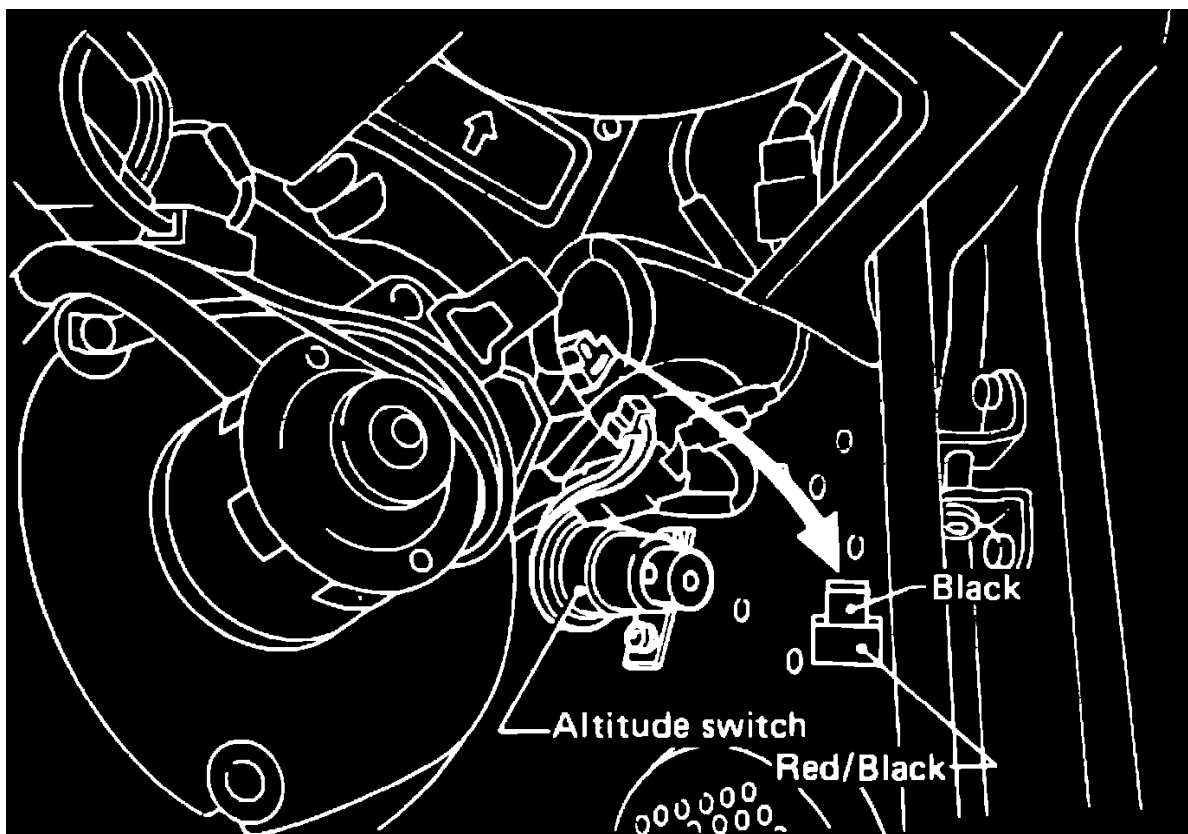

Fig. 39 Installing altitude switch.
1. Install altitude switch on righthand side of dash, **Fig. 39**, and connect electrical connector.